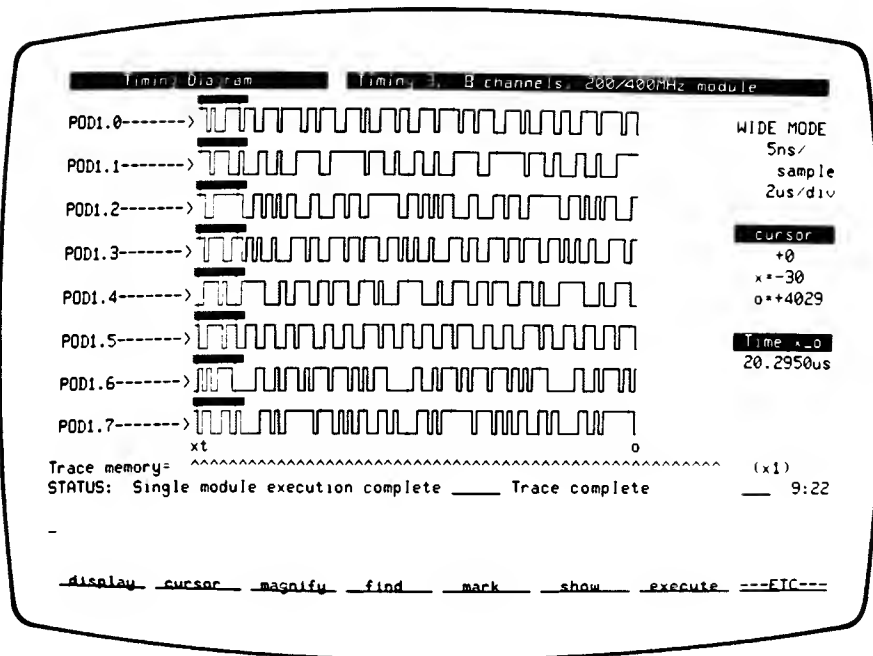

Figure 3-3. Timing Diagram Default Display
5. When the trace is complete, the timing diagram will be on screen and show a trace of the activity in the probed lines of the circuit under test. See figure 3-3 for the 8-channel default timing diagram. A second line of softkey labels (shown below) is available by pressing the ---ETC--- softkey.